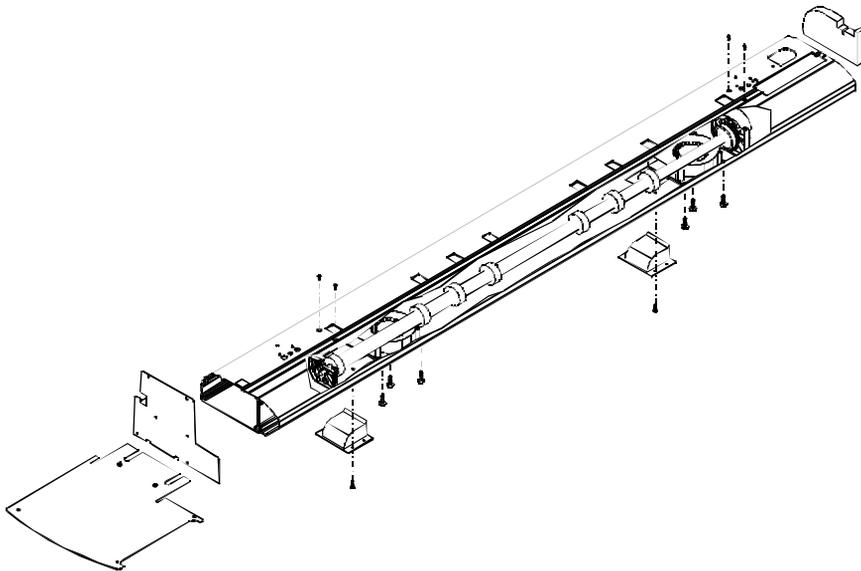

Figure 5-24. Inner Platen Assembly/Disassembly.
- Using a #2 Phillips screwdriver, remove the two screws that secure the Left Sideplate Assembly to the Platen. See Figure 5-24.
Ensure that the Lower Drive Supports and Fan Assemblies are oriented in the correct position before inserting into the Platen. See Figure 5-24 for visual indication of correct orientation.